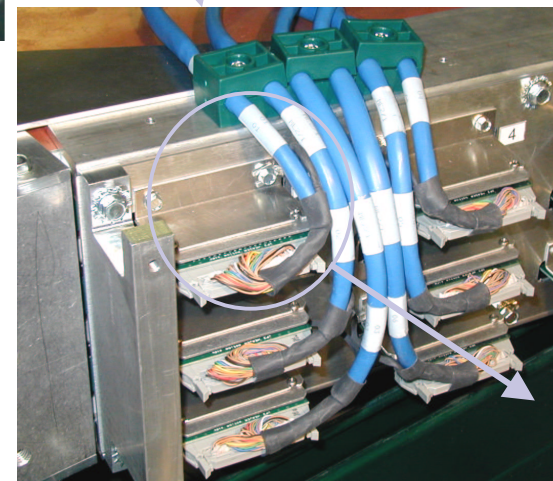
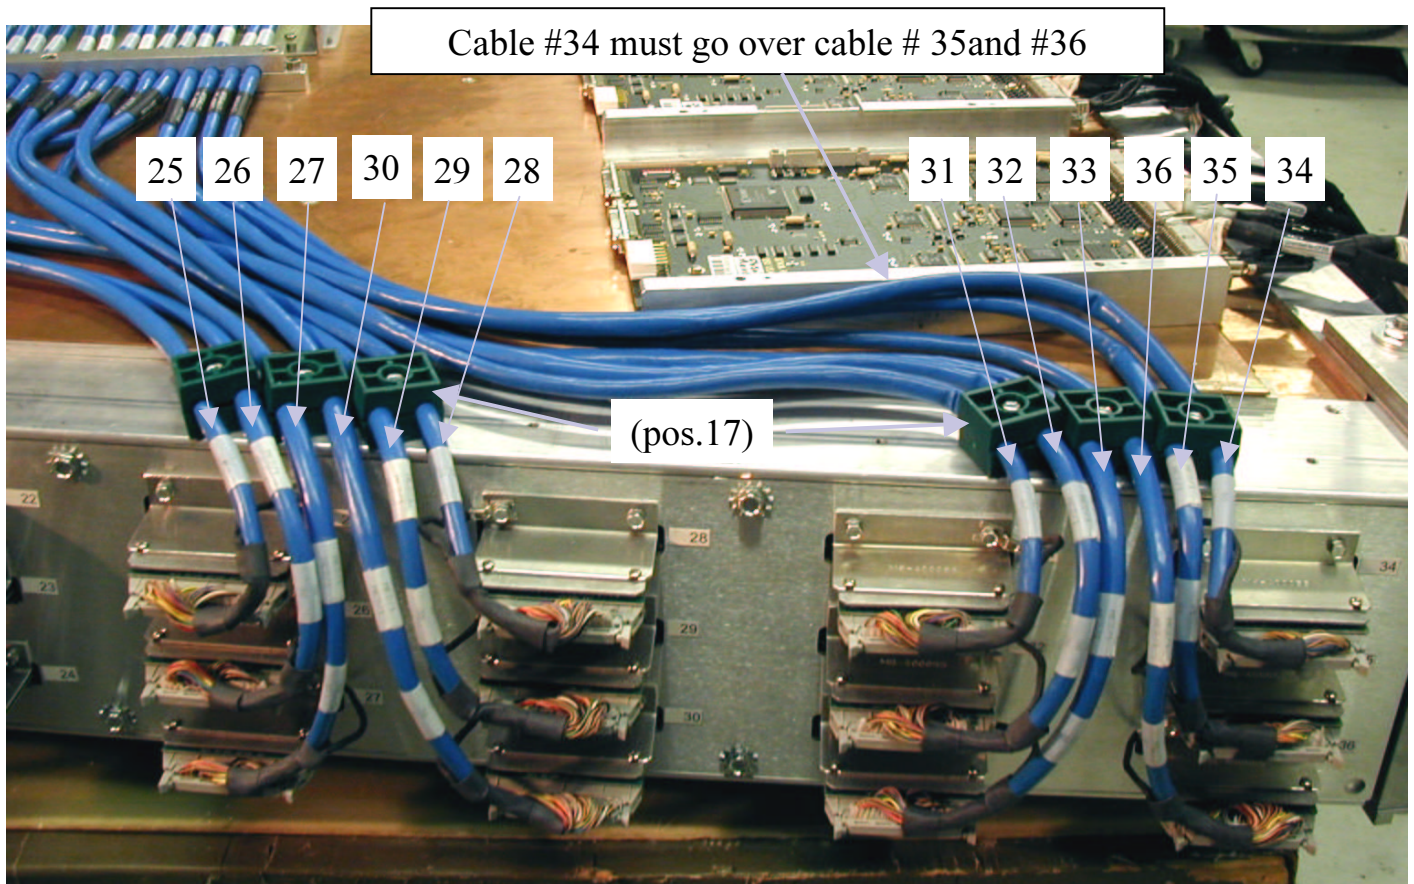

Fig.3b. Cable arrangement at the AFEB's output. All cables must go along the connector side wall.
Fig.6. Cable bunch 5 and 6 connection.
Step 3. Form up the cables at the AFEB outputs as shown in the picture (Fig.3b). All cables must go along the connector side wall. If necessary, use an extra cable tie to keep cables in right position (Fig.4a).
Step 2. Connect cable #31 to amplifier #31 (top position). Then continue connecting in a special order: 32, 33, 36, 35, 34. Every cable must go over the previous one (cable #34 is upper). See Fig.6 for reference.
Step 3. Set the cables between the cable strain relief RBPR-110 (pos.17) in the order 25, 26, 27, 30, 29, 28 and 31, 32, 33, 36, 35, 34 as shown in the picture (Fig.6).
Step 4. Form up the cables at the AFEB outputs as shown in the pictures (Fig.3b and Fig.6). All cables must go along the connector side wall. If necessary, use an extra cable tie to keep the cables in the correct position (Fig.4a).